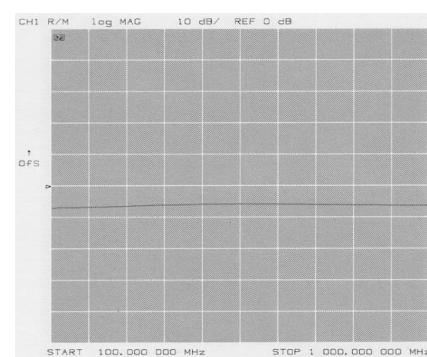

Figure 8. Plot of swept IF/fixed LO conversion loss of a mixer
11. Since the mixer's RF input power was chosen to be 0 dBm and the loss due to the IF components was removed, the resulting display shows the swept IF conversion loss of the mixer versus IF frequency. A plot of this is shown in Figure 8.